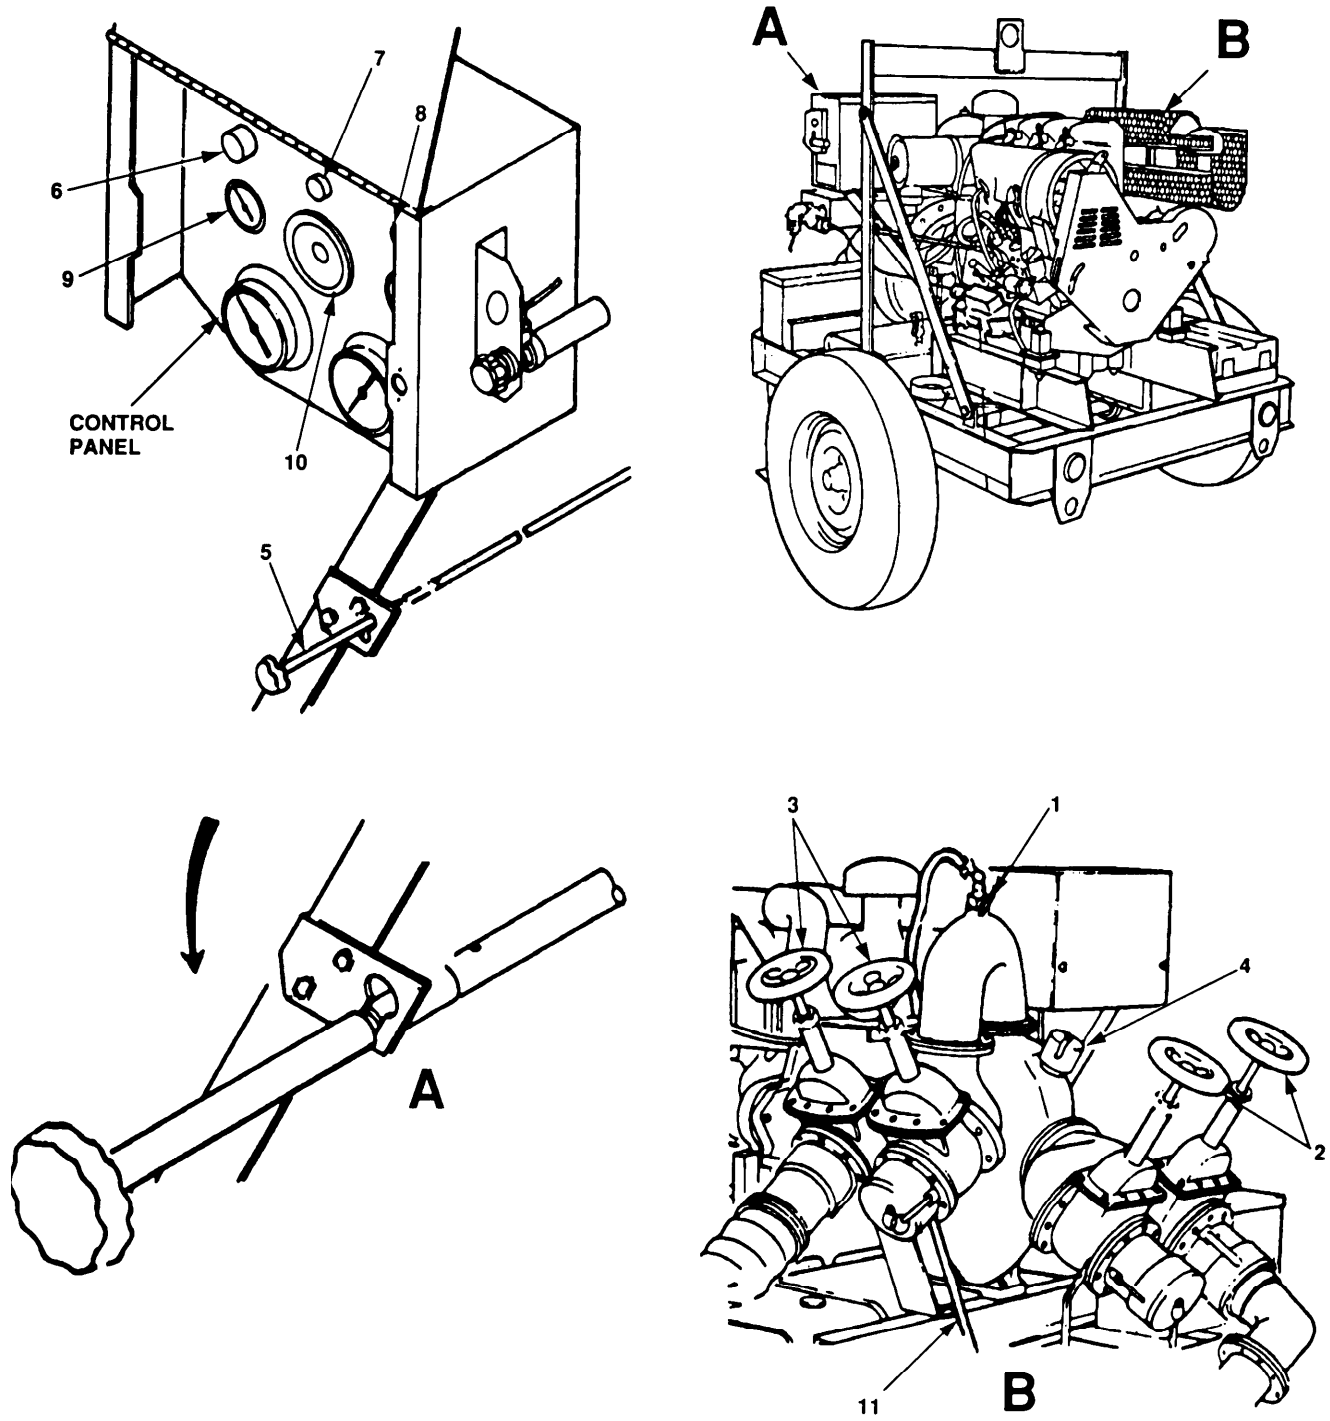

Figure 2-5. Pumping Assembly Operation.
- a. Open vent valve (figure 2-5, 1) and ensure that all suction valves (2) and discharge valves (3) are closed.
- b. Check pump water level by carefully opening camlock levers on priming port cap (4) and raising port cap slightly to see if water is discharged from priming port. If water is discharged, quickly install priming port cap and place camlock levers in locked position. If water is not discharged, remove port cap and add water, until level reaches the top of the priming port.
- c. Install priming port cap (4) and place camlock levers in locked position.
- d. Push and raise throttle control (5) from detent latch, releasing it to the idle position.
- (1) Turn the two fasteners on Control Panel counterclockwise until fasteners release.
- (2) Raise Control Panel cover until retaining holes in two brackets mounted on top of Control Panel align with retaining hole in bracket mounted on cover.
- a. Decrease idle speed to 800 RPM then push and raise throttle control (Figure 2-5, (5)) from detent to idle speed for two minutes.
- b. Close discharge valves (3) and suction valve (2).
- c. Push in EMERGENCY STOP switch (6).
- (1) Press in on end of quick release pin and remove pin from brackets at top of Control Panel and Cover.
- (2) Lower control panel cover.
- (3) Turn the two fasteners on the control panel clockwise until the fasteners engage.